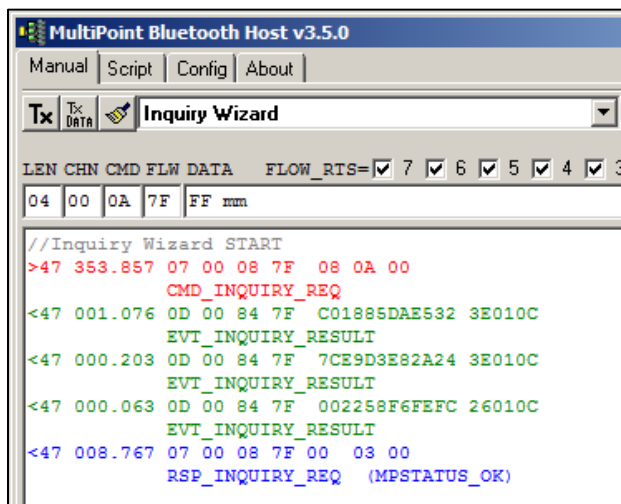

Figure 48: Click **Inquire**
2. Click **Inquire** (Figure 48).